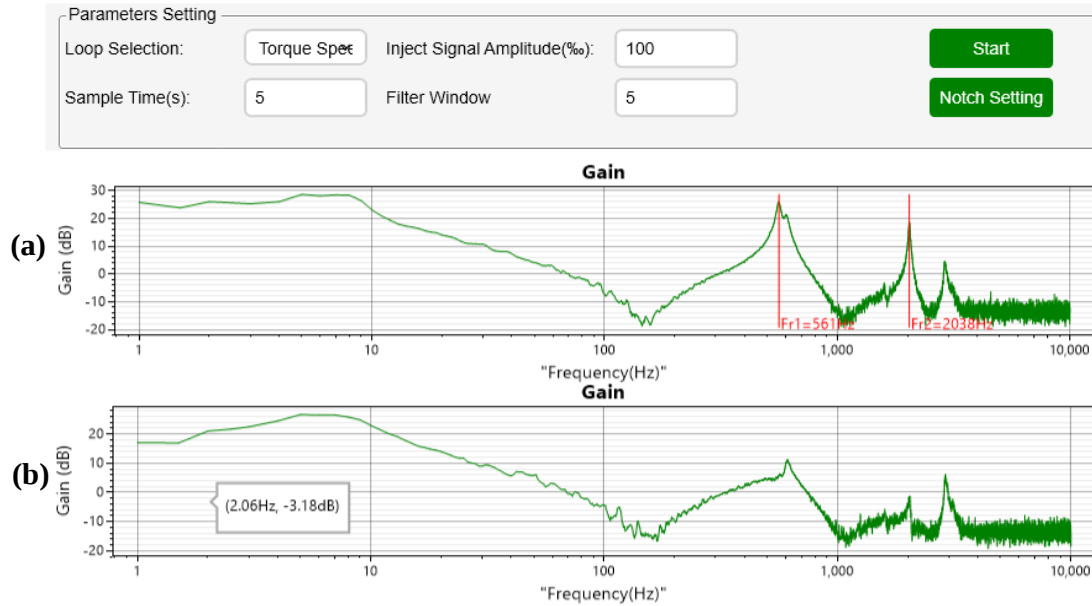

Figure 41: Mechanical Characteristic Test and Notch by using MotionLAB
1. Loop selection selects the torque speed (see Figure 41 on page 79).
The following is an example of suppressing mechanical vibration using the frequency characteristic function (see Figure 41 and Figure 42 on page 79).
- Figure 41 and Figure 42 on page 79 shows the MotionLAB interface. Click the “Notch Setting” button to access the notch settings window, which displays the configured notch filter parameters corresponding to all the measured resonance points automatically. The users can modify the parameters of each notch.